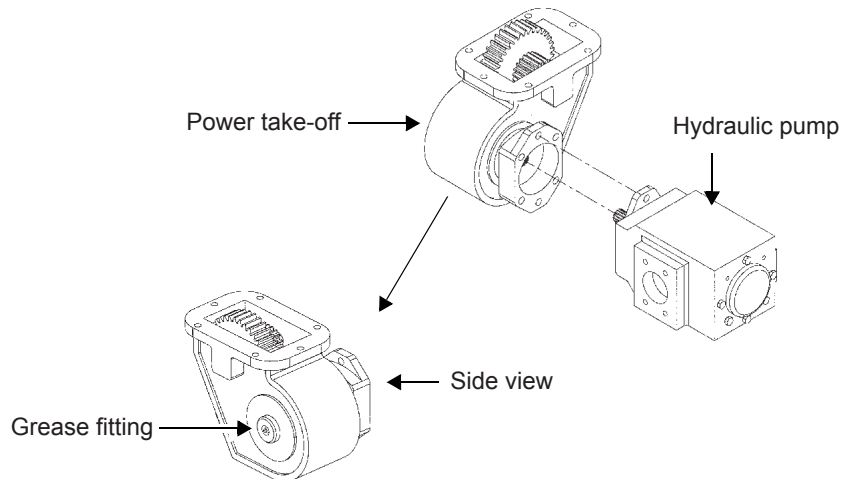

Figure 21 - Power take-off view
- Pump the grease gun **twice** into the grease fitting on the side of the power take-off (see *Figure 21*, below).